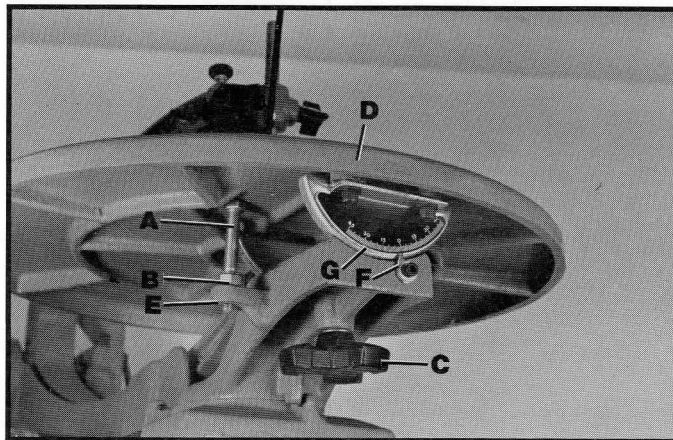

Fig. 25
A table stop (A) Fig. 25, is provided to accurately position the table at 90 degrees with the saw table. Thread nut (B) on table stop (A), loosen lock knob (C) and tilt table (D). Insert table stop (A) Fig. 25, into hole in casting (E) and lower table (D) until it contacts top of table stop (A) as shown.
To adjust, turn nut (B), Fig. 25 right or left as needed until table is 90 degrees with the saw blade. Tighten lock knob (C) and adjust indicator (F) until it points to zero on angle-of-tilt scale (G).